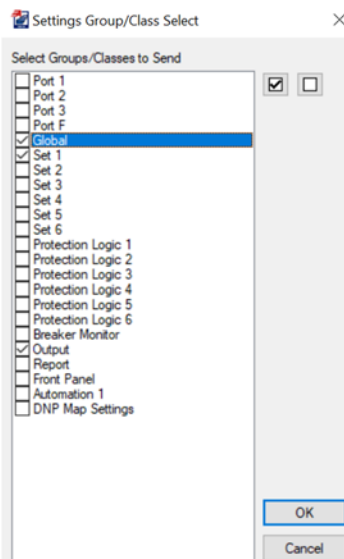

Figure 64: Select Settings to Send to 421
46. Select Global, Set 1, and Outputs, as shown in Figure 64 and click OK.